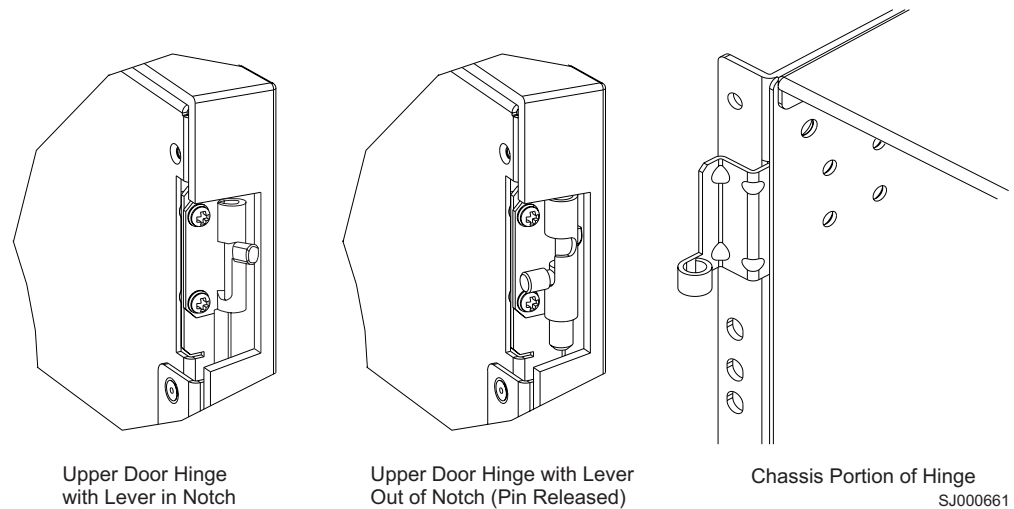

Figure 5. Removing the chassis door
- c. Push the spring-loaded pin on the upper hinge up and into the notch in the hinge. See Figure 5 on page 13.